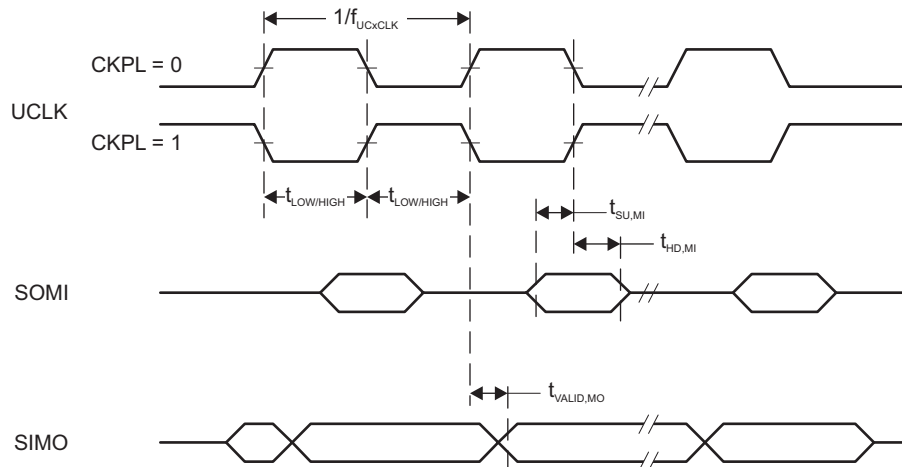
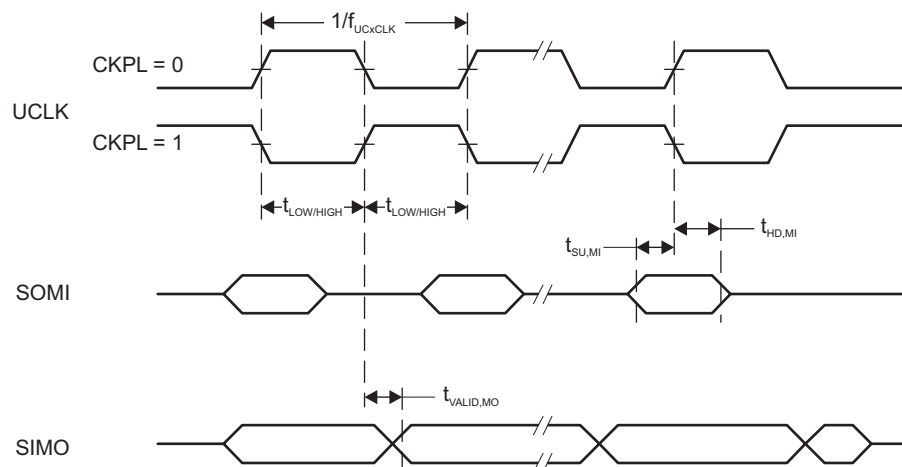

Figure 5-12. SPI Master Mode, CKPH = 0
Figure 5-13. SPI Master Mode, CKPH = 1
- (2) Specifies the time to drive the next valid data to the SIMO output after the output changing UCLK clock edge. See the timing diagrams in Figure 5-12 and Figure 5-13.
- (3) Specifies how long data on the SIMO output is valid after the output changing UCLK clock edge. Negative values indicate that the data on the SIMO output can become invalid before the output changing clock edge observed on UCLK. See the timing diagrams in Figure 5-12 and Figure 5-13.